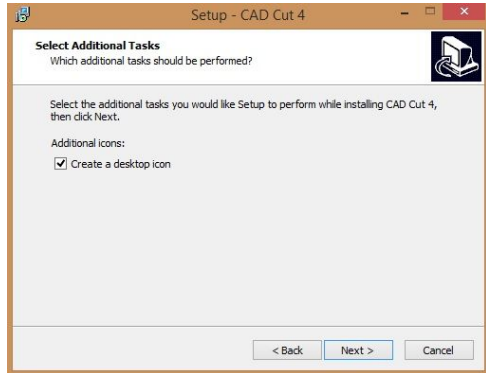

Fig. 12 – selecting additional tasks
- In the following window you can select additional tasks for the installer, f. e. creating a desktop shortcut icon for the program (Fig. 12).